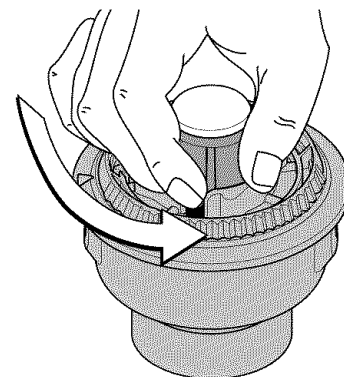

Fig. 20
1. If you need to remove the Bump Knob to clean the head or remove jammed, excess line, hold the reel housing, and unscrew the Bump Knob counterclockwise (Fig. 20).